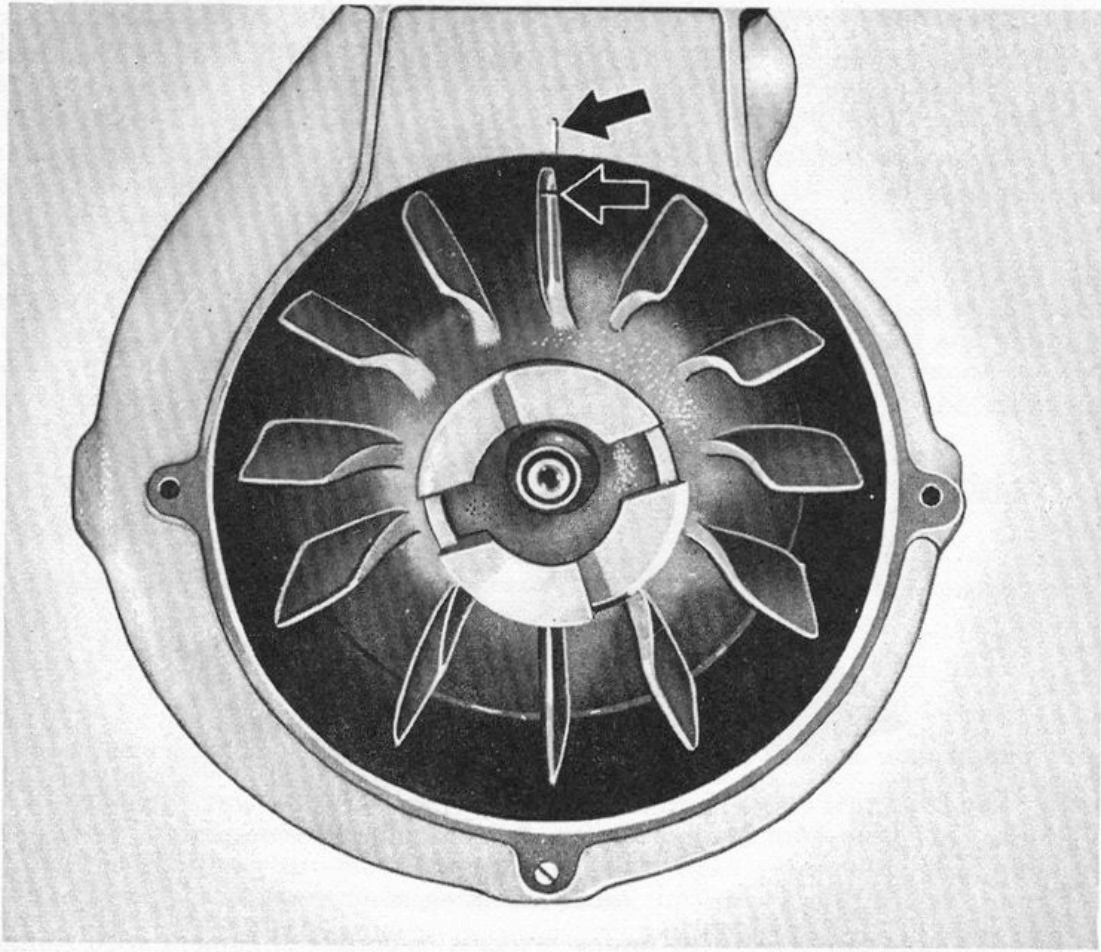

Figure 14. Timing Marks—Cooling Fan
- Turn fan until fan blade with timing mark, is in perfect alignment with timing mark on crankcase. (See figure 14.)